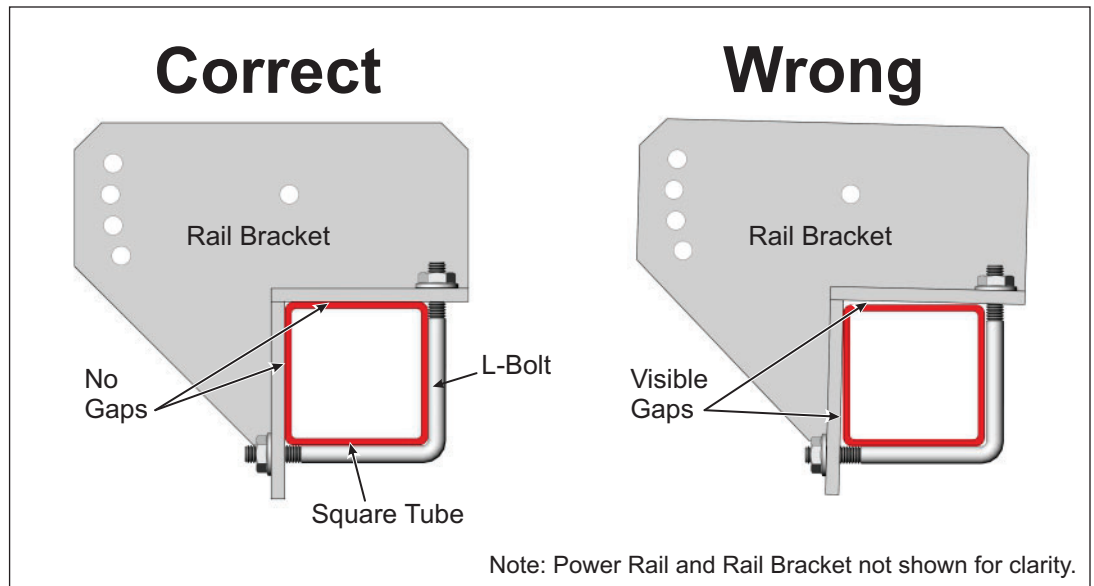

Figure 4-6: Alternate Tightening of L-Bolts to Close Gaps
- Continue to tighten the Flange Nuts, alternating between the four so the L-Bolts and Rail Bracket are drawn evenly against the Horizontal Pipe. (See Figure 4-6)